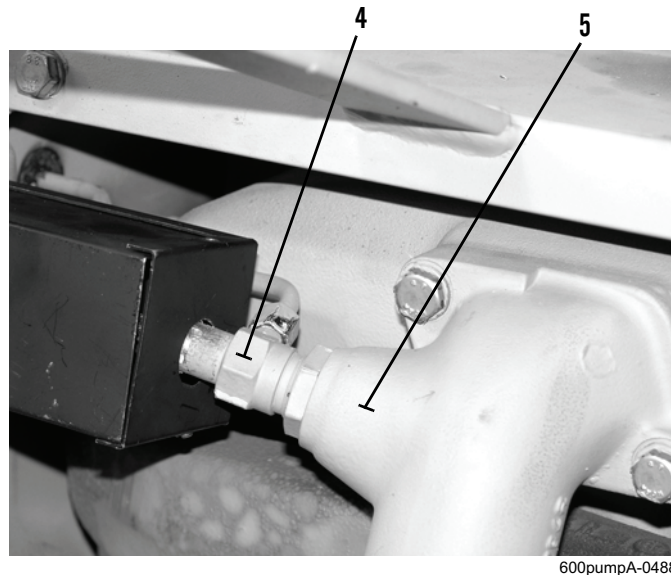

Figure 2. Flame Glow Plug at Manifold Pipe.
3. With preheat on, place hand on manifold pipe (Figure 2, Item 5) and check that flame glow plug (Figure 2, Item 4) is heating up manifold pipe.